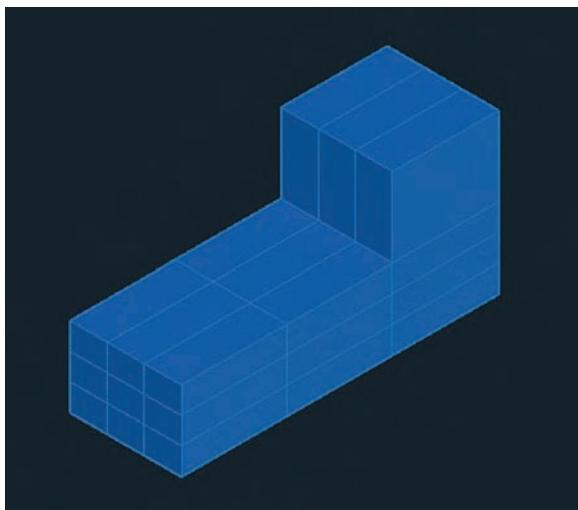

FIGURE 17.31 Extruding selected mesh faces
4. Click the Extrude Face tool in the Mesh Edit panel, select the three faces on the top right of the mesh object, and press Enter. Type **5** and press Enter to extrude the selected faces (see Figure 17.31).